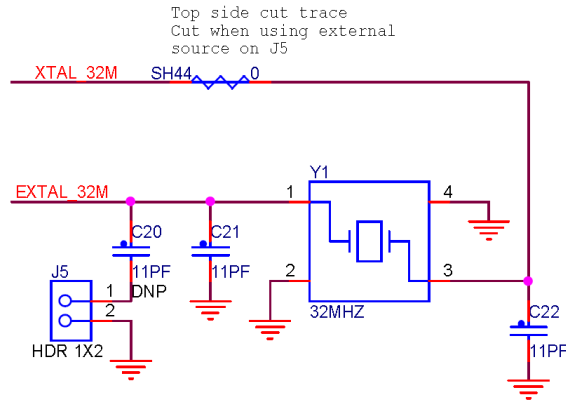

Figure 7. FRDM-KW019032 32 MHz reference oscillator circuit
- 32 MHz Reference Oscillator: Figure 7 shows the external 32 MHz external crystal Y1. This mounted crystal must meet the MKW01Z128 specifications.